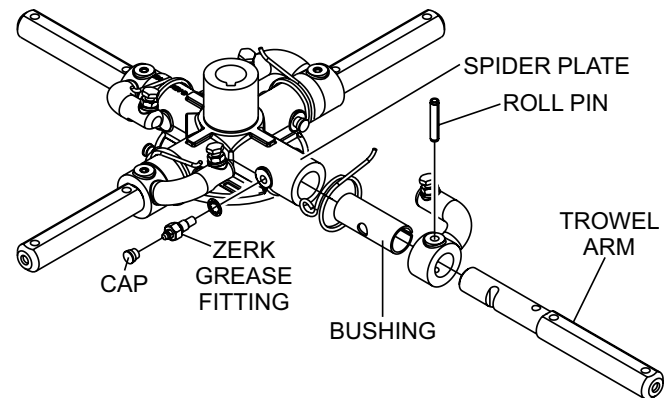

Figure 59. Trowel Arm Removal
1. Each trowel arm is held in place at the spider plate by a hex head bolt (zerk grease fitting) and a roll pin. Remove both the hex head bolt and the roll pin (Figure 59) from the spider plate.
4. Examine the trowel arm bushing insert (Figure 59), clean if necessary. Replace bushing if out of round or worn.